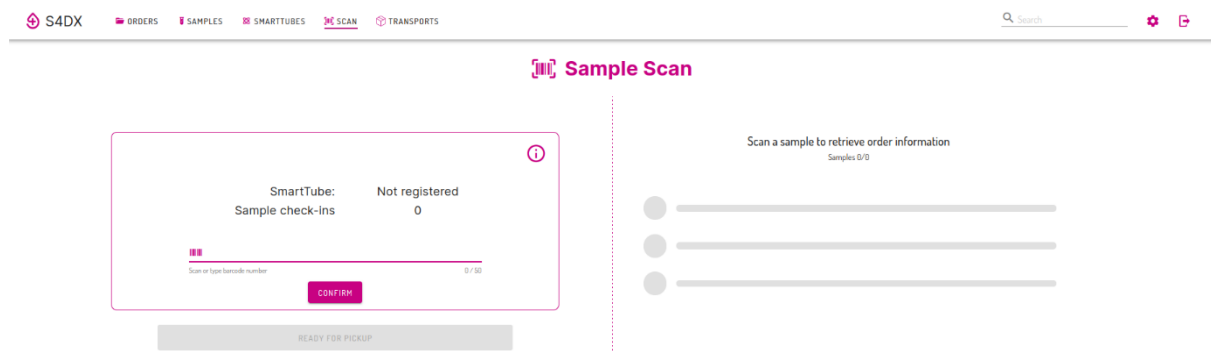

Figure 25. Start scanning
- Move the mouse to the data input field and click on it (see Figure 25).